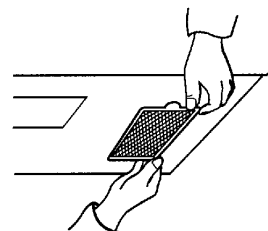

Figure 34
7. Grasp filter screen with one hand holding the ring and the other hand holding the opposite end. Insert the end of the filter screen without ring into the opening and slide towards the side of the microwave oven. Insert ring end of filter screen into the opening and slide entire screen towards the center of the microwave until screen is securely in position. Repeat for other filter screen. See Figure 34.